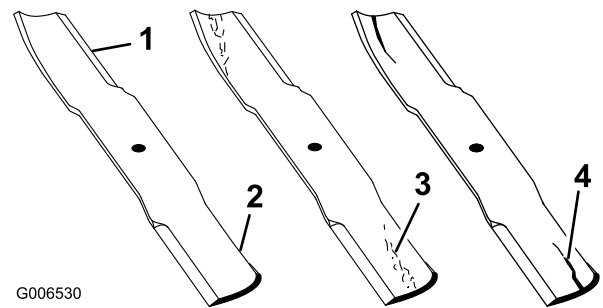

Figure 55
1. Inspect the cutting edges (Figure 55). If the edges are not sharp or have nicks, remove and sharpen the blades. Refer to Sharpening the Blades.
2. Inspect the blades, especially the curved area (Figure 55). If you notice any cracks, wear, or a slot forming in this area (item 3. in Figure 55), install a new blade.